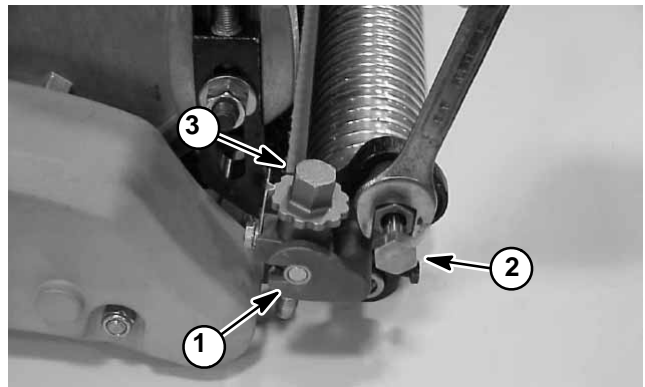

Figure 3
3. Position the grooming reel to the lowered, grooming position (Fig. 3).
4. On one end of the grooming reel, measure the distance from the lowest tip of the grooming blade to the working surface. Lift and turn height adjustment knob to raise or lower the blade tip (Fig. 3). Each notch on the adjustment knob changes the groomer height approximately 0.003 inch (0.08 mm).